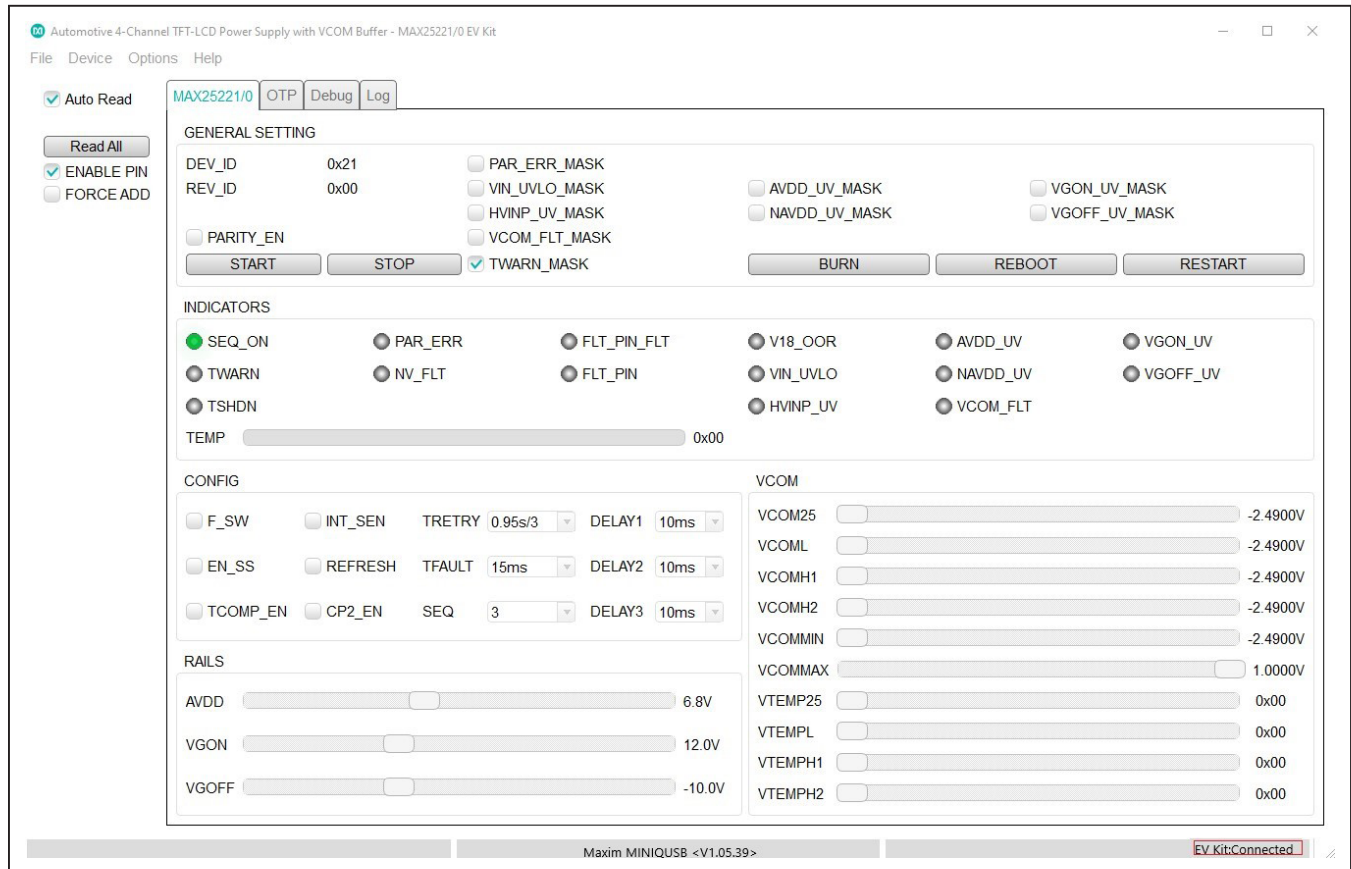

Figure 1. MAX25221 Evaluation Kit Software (GUI)
- From the EV kit software toolbar, select **Device** → **Scan for Address**. The GUI scans the I²C bus for available slave addresses on the bus and selects the first one (in this case, the MAX25221 I²C address with J5 settings: 52H). Press **OK** once the MAX25221/MAX25220 I²C address has been found. Figure 1, is a screen capture of MAX25221 Evaluation Kit Software (GUI).